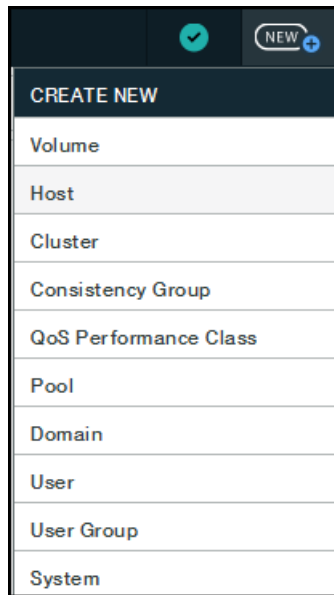

Figure 3-5 Defining a new host
3. From the main Hyper-Scale Manager Dashboard, mouse over the **New** icon, click **New Item**, and select **Host** from the menu, as shown in Figure 3-5. This illustration applies to an FC-connected host. For an iSCSI-connected host, see the procedure that is explained in the IBM Redbooks publication, *IBM FlashSystem A9000, IBM FlashSystem A9000R and IBM XIV Storage System: Host Attachment and Interoperability*, SG24-8368.